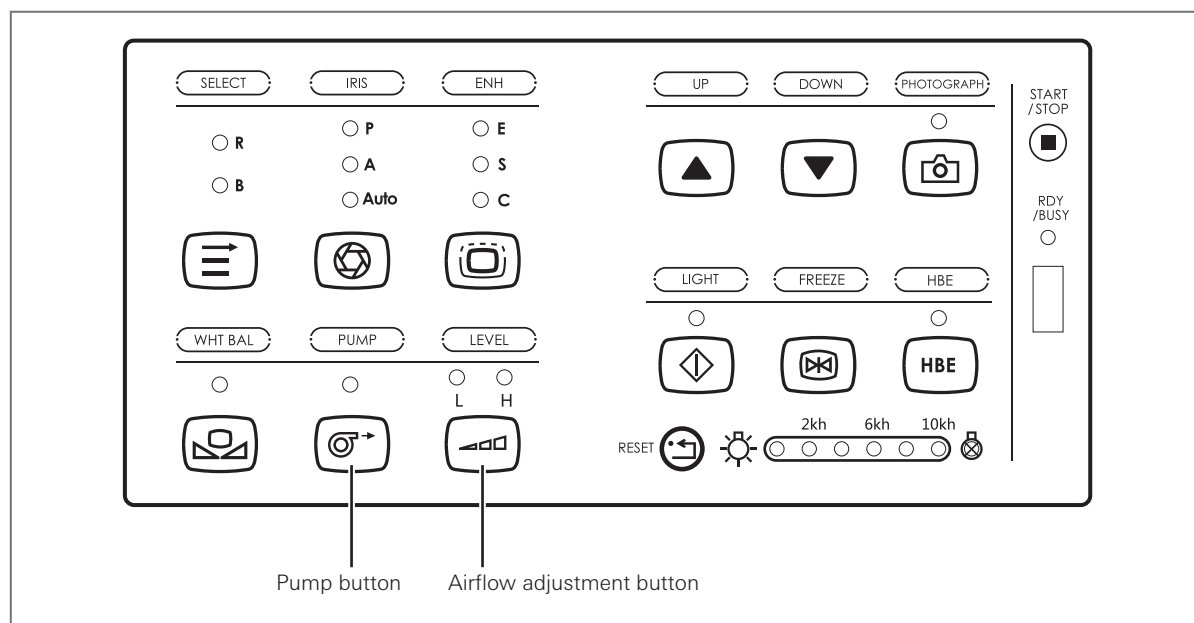

Figure 4.2
1. Press the pump button to turn ON the pump (see Figure 4.2).
2. Press the airflow adjustment button to adjust the airflow level (see Figure 4.2).